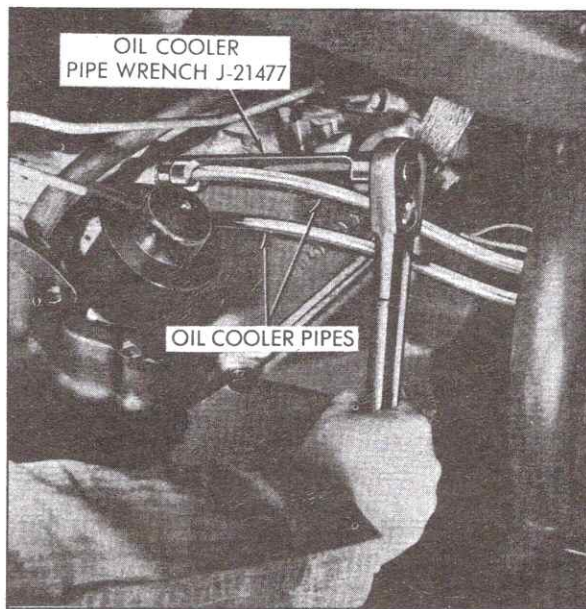

Fig. 7-27 Disconnecting Oil Cooler Pipes
9. Disconnect oil cooler pipes at transmission using Oil Cooler Pipe Wrench, J-21477, Fig. 7-27. Cap pipes and plug connector holes in transmission. Position oil cooler pipes out of way.
20. Tighten brass cooler pipe connectors at case to 28 foot-pounds. Clean ends of oil cooler pipes with solvent and connect pipes to transmission using Oil Cooler Pipe Wrench, J-21477, Fig. 7-27. Tighten nuts to 28 foot-pounds.